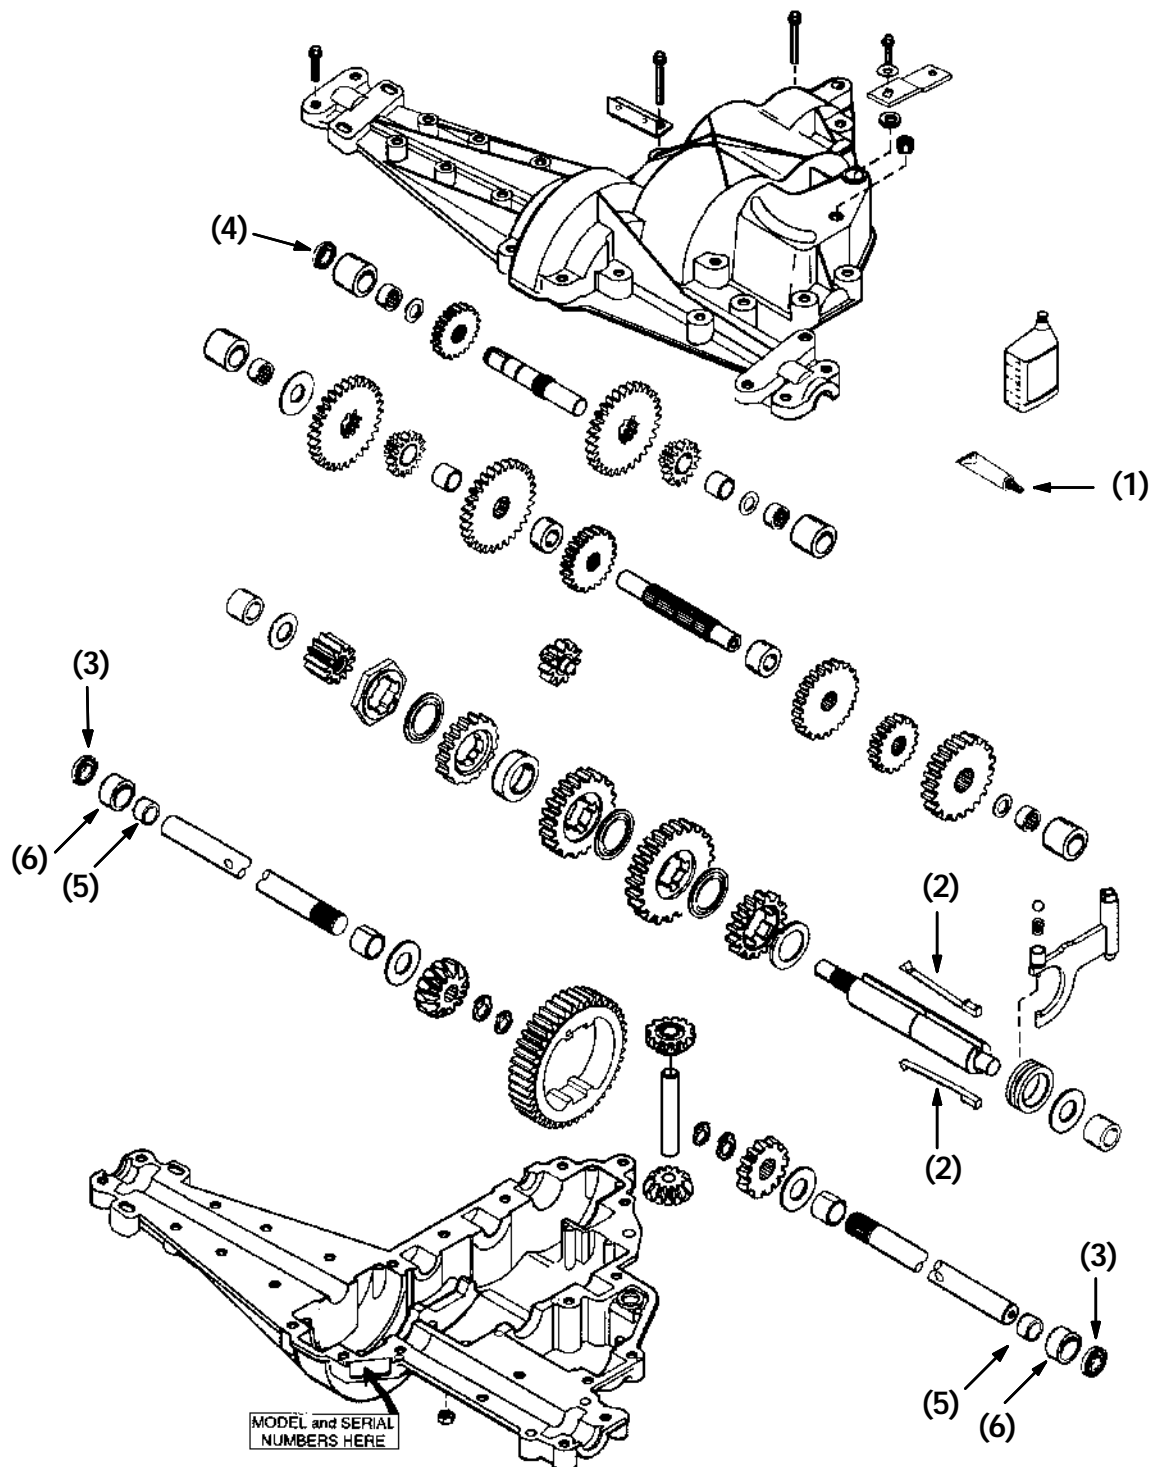

FIG. 3 - Transaxle Breakdown
(Refer to FIG. 3)
1. Disassemble the transaxle using the transaxle breakdown illustration. (Refer to FIG. 3)
2. Install the new input shaft seal (4), two new axle seals (3), and two new shifter keys (2).
3. Reassemble the transaxle using the transaxle breakdown illustration. (Refer to FIG. 3)